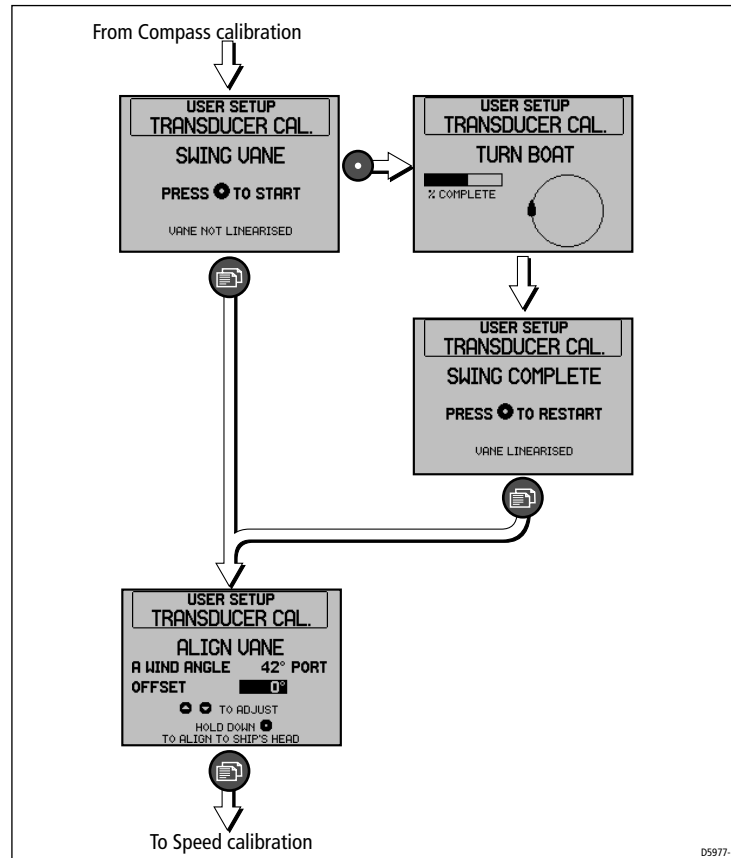

Figure 2-23: Wind vane calibration (Graphic Display)
The wind vane calibration procedure is summarized in *Figure 2-23*.
2. Press the ● button so the TURN BOAT page is displayed (see *Figure 2-23*).
1. Select the ALIGN VANE page (see *Figure 2-23*).